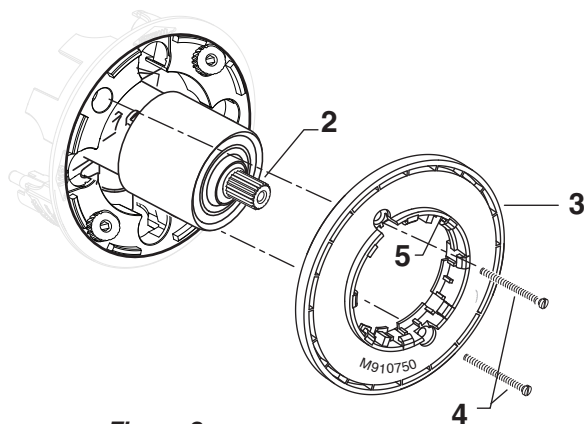

Figure 2.
- **Figure 2.** Make sure O-RING (5) is secure within ESCUTCHEON HOLDER (3). Push ESCUTCHEON HOLDER (3) onto CAP (1) and attach with LONG SCREWS (4).